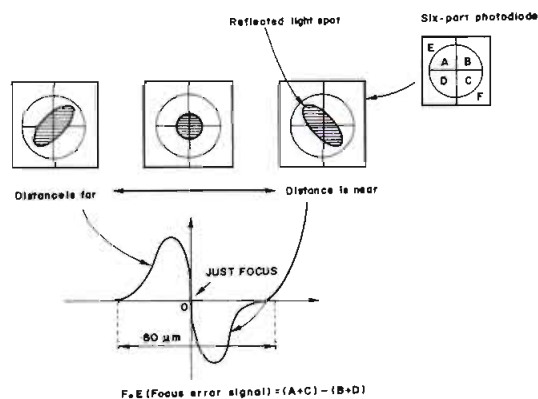

Fig. 16
This is achieved by what is called the astigmatic method which makes use of the fact that the shape of the laser beam spot reflected from the disc into a six-part photo diode in the pick-up varies according to the distance from the disc as indicated in Fig. 16. These changes are due to the action of a cylindrical lens.
The A, B, C, and D photo diode light source currents undergo a diagonal subtraction in three operational amplifiers in Q151, resulting in the generation of a focus error (FE) signal. FE signal changes at different distances from the disc reflecting surface are summarized by the curve in Fig. 16.
Since the FE signal can only be obtained when within $\pm 30\mu\text{m}$ of the focus point (see Fig. 16), a focus search circuit is required to shift the object lens up and down in the beginning to find the focus point before closing the servo loop for stabilized focus servo operation.